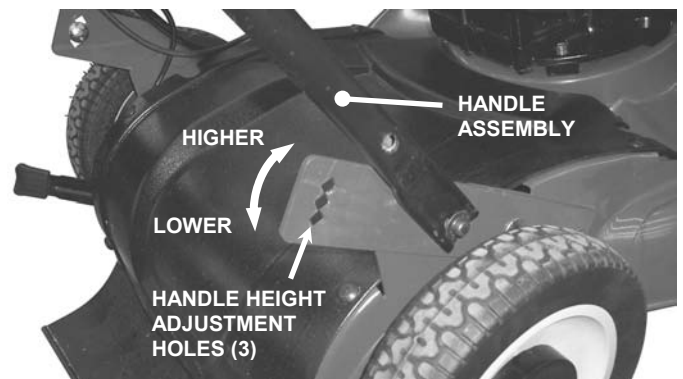

FIGURE 2.8
2. Align holes in handle assembly with one of three handle height adjustment holes in mounting bracket. See Figure 2.8.